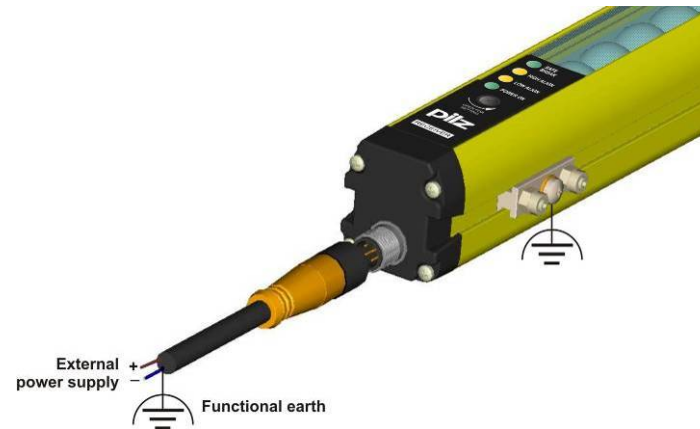

Fig. 14
- Fig.14 shows how to connect the transmitter/receiver correctly.